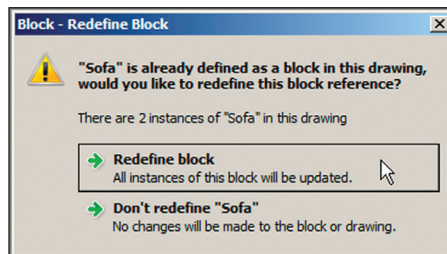

FIGURE 9.12 You are asked whether you want to redefine a block before it is done.
- Click the Browse button in the Insert dialog box. Select the `Sofa.dwg` file you saved in step 2. Click OK in the Insert dialog box, and the Block – Redefine Block dialog box appears (see Figure 9.12). Notice that it says that there are two `Sofa` block references in the drawing. These are two sofas in Reception. Click Redefine Block.